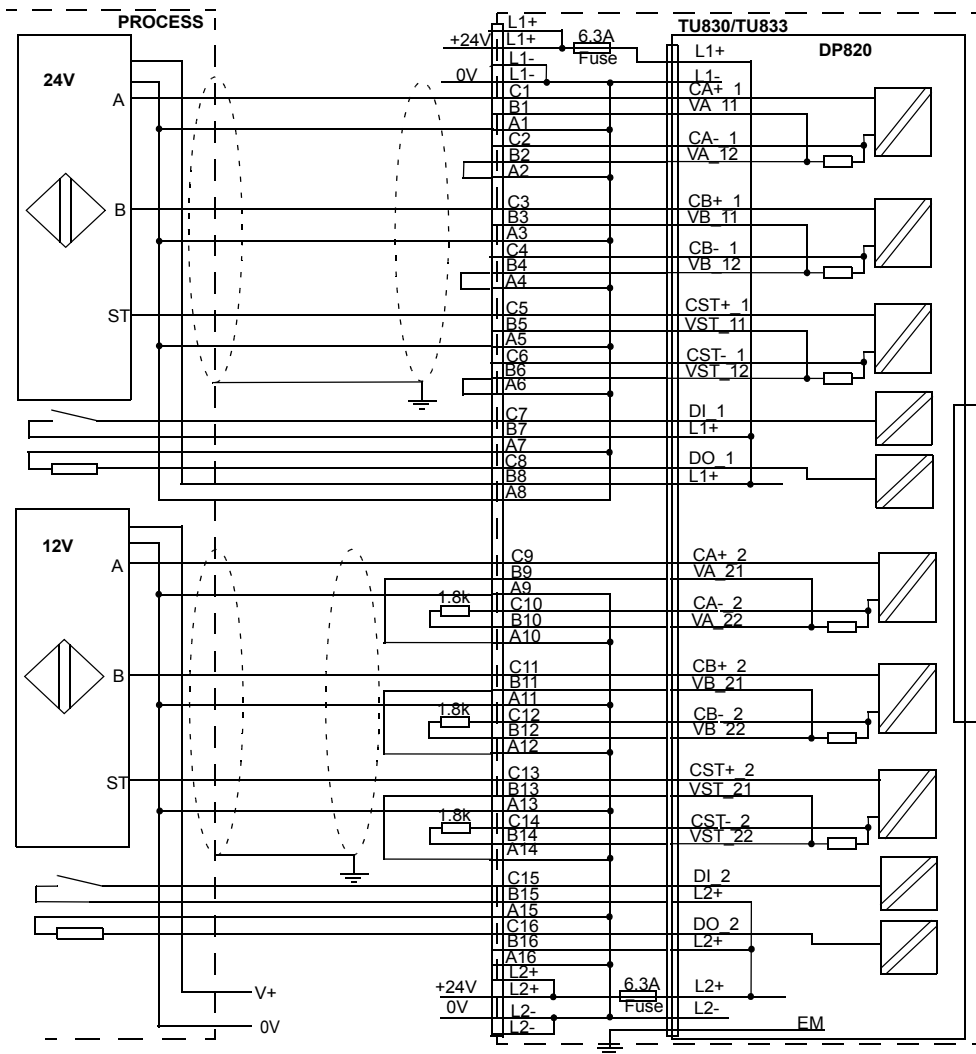

Figure 228. DP820 with TU830 MTU Process Connections and Transducer Connections
- (1) Load 20 mA at 5 V, 8 mA at 2.5 V
- (2) With TU830 external resistor 1.8 k Ω , see Figure 228.
Figure 228 shows the process connections for DP820 when installed on a TU830 MTU, and with +24 V transducer connected to channel 1 and +12 V transducer to channel 2.